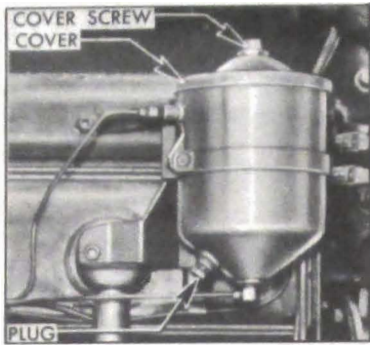

Figure 1-12—Oil Filter
4. *Oil Filter.* Change original oil filter element at first 2000 miles, the second element at first 5000 miles, then change element at each 5000 miles thereafter. Remove old element and wipe container out thoroughly with clean cloths; drain plug may be removed to aid cleaning. See figure 1-12. Use new cover gasket when installing new element. **NOTE:** *Elements used in 1948 and 1949 filters are not interchangeable. Each filter bears a label which gives the AC number of filter element that must be used for replacement.*